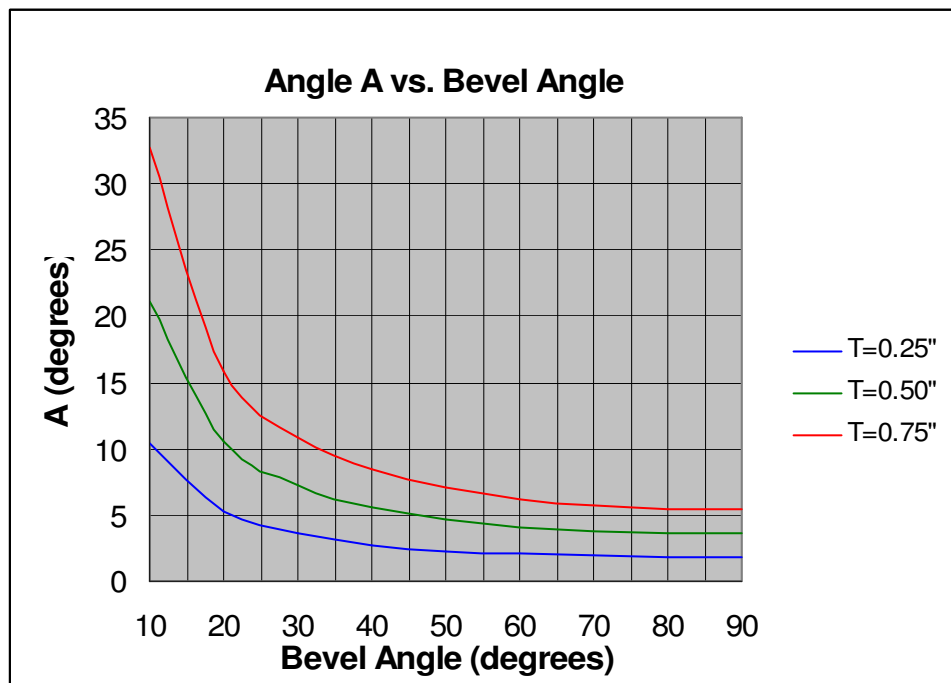

Figure 6 – Correction Angle vs. Bevel Angle for 8" Wheel
For cases where other bevel angles are desired the correction angle for an 8" wheel is shown in Figure 6 as a function of bevel angle for three thicknesses. This should allow an estimate of the value of A for any case. Again, if more accuracy is required, then solve Equation (5) with the exact values of T , B , and D .